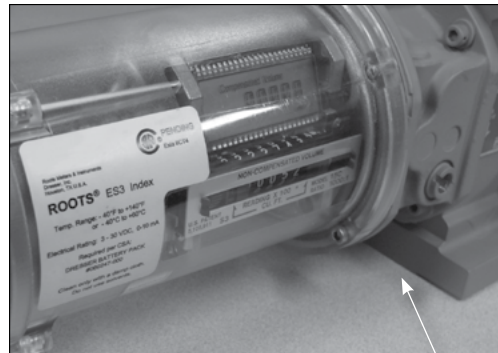

Figure 10.23 - Insert the 3/4 inch (short) screw
- A. Insert one 3/4-inch (short) screw on the unit below the odometer, and tighten with the 5/32-inch hex wrench just enough to hold the unit temporarily as shown in Figure 10.23. Do not fully tighten at this point.